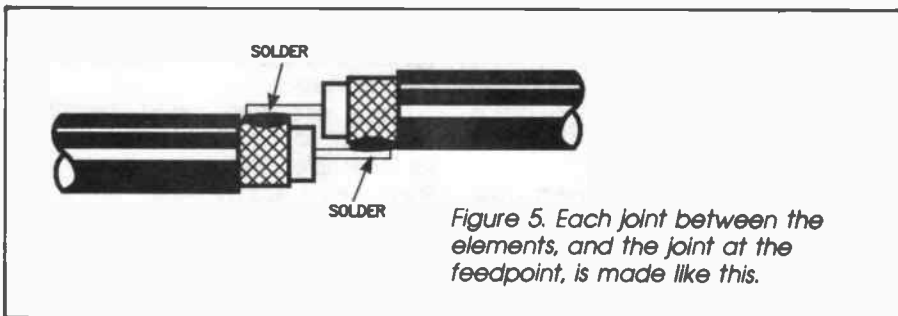

Figure 5. Each joint between the elements, and the joint at the feedpoint, is made like this.
7) Now to solder the elements together. First slip a 35-40mm length of 9.5mm or 12.7mm diameter heatshrink on each element. Solder the elements together, end to end, as shown in Figure 5. With each joint, after it has cooled, apply silicone sealant to the area of the joint to seal it, then, while the silicone is still plastic, slip the heatshrink tubing over the joint and apply a blast of hot air (hair driers are great for this). But don't overdo the hot air, though, or you're likely to soften the outer sheath of the coax and possibly damage it.
12) Now attach the prepared cable to the feedpoint, making a joint as per Figure 5. Seal it and cover it with heatshrink. Put a tie either side of the